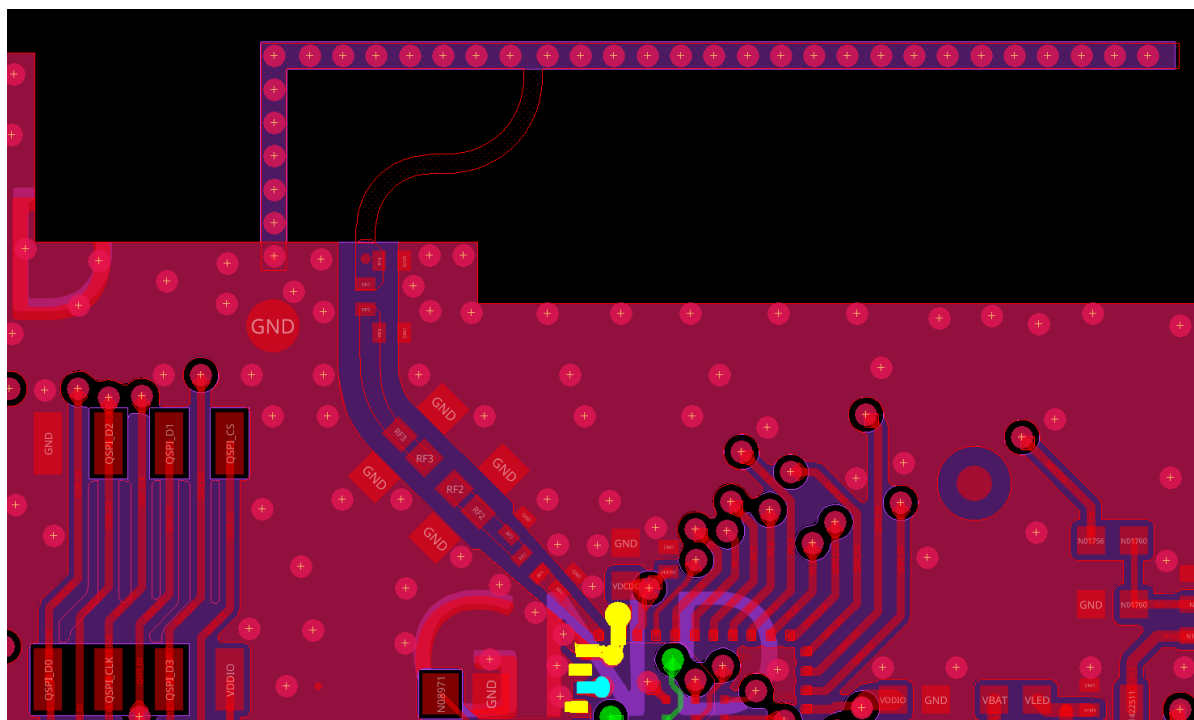
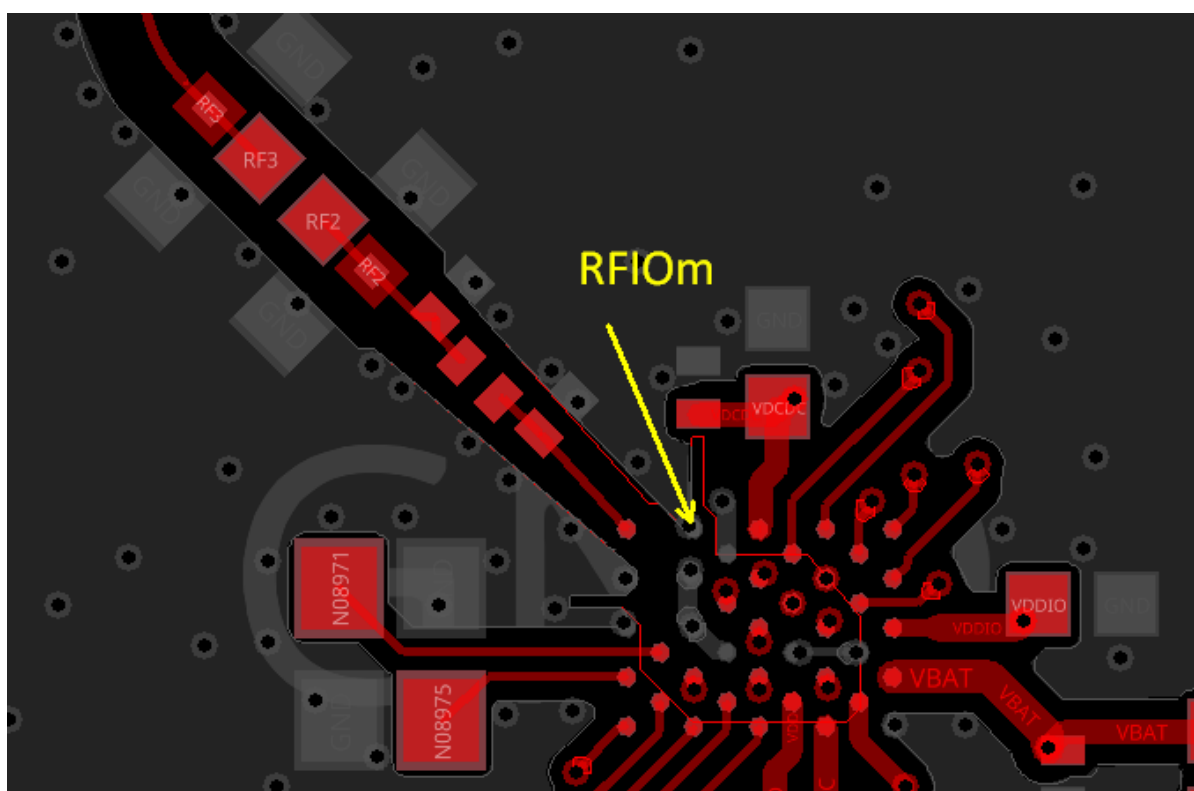

Figure 19. FCQFN52 RFIO routing and RFIOm grounding
Figure 20. WLCSP39 RFIO routing and RFIOm grounding
- It is important to properly route the RF strip line to the antenna. The design of RF GND is also important. See Figure 19 and Figure 20.
- FCQFN52: RFIOm (#39), PSUBFE (#1) and GND/IF (#2) are connected to the same ground at top layer and to the inner ground plane L2: highlighted in yellow. Grounding the RFIOm pin separately by using a via to the ground plane is also a good strategy. DCO GND (#3) is grounded to the ground plane using a separate via: highlighted in light blue. See Figure 19.
- WLCSP39: RFIOm (#A3) is grounded directly to the top layer ground and to the inner layer grounds L2 and L3. PSUBFE (#C1) and GND_DCO (#E1) are grounded to the top layer ground using their own ground connection. Additionally, GND_IF (#C3), GND_XTAL (#E3), and GNDA (#F4) are shorted to each other on the top layer and grounded to the ground at L3. The top layer (L1) ground is connected to the inner ground layers. See Figure 20.
In Figure 19, the top layer copper (L1) is colored red, the inner ground layer copper (L2) is colored purple/blue.
Figure 20 shows the top layer copper (L1) only.